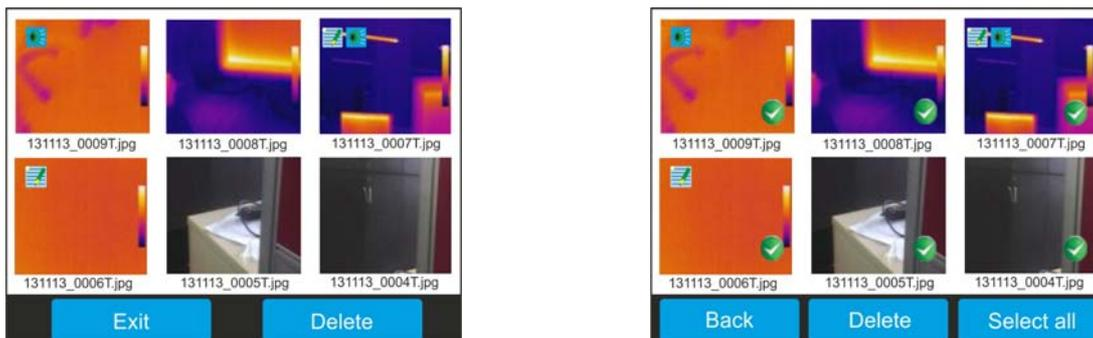

Fig. 67: Selecting and deleting images
1. Touch the icon “Delete” inside the image gallery. The following screen (see Fig. 67 – Right side) is shown on the display: